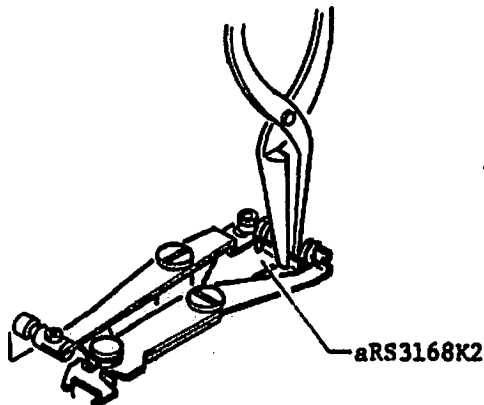

Fig.81
* Adjust the clearance by bending the edge of No. 1 lever (aRS3168) as shown in Fig. 81.